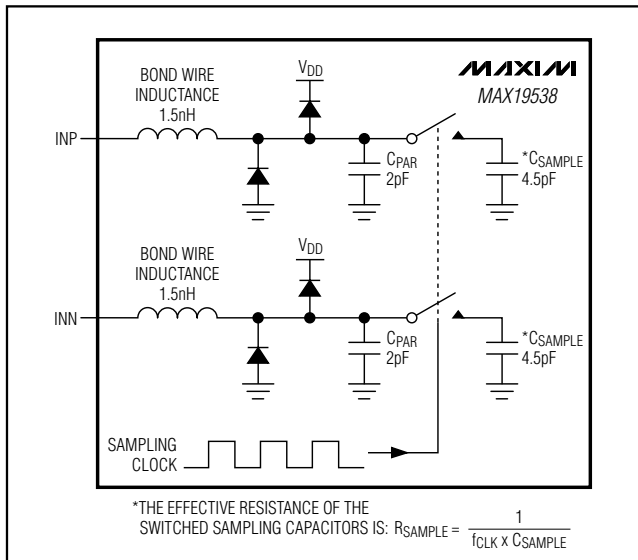
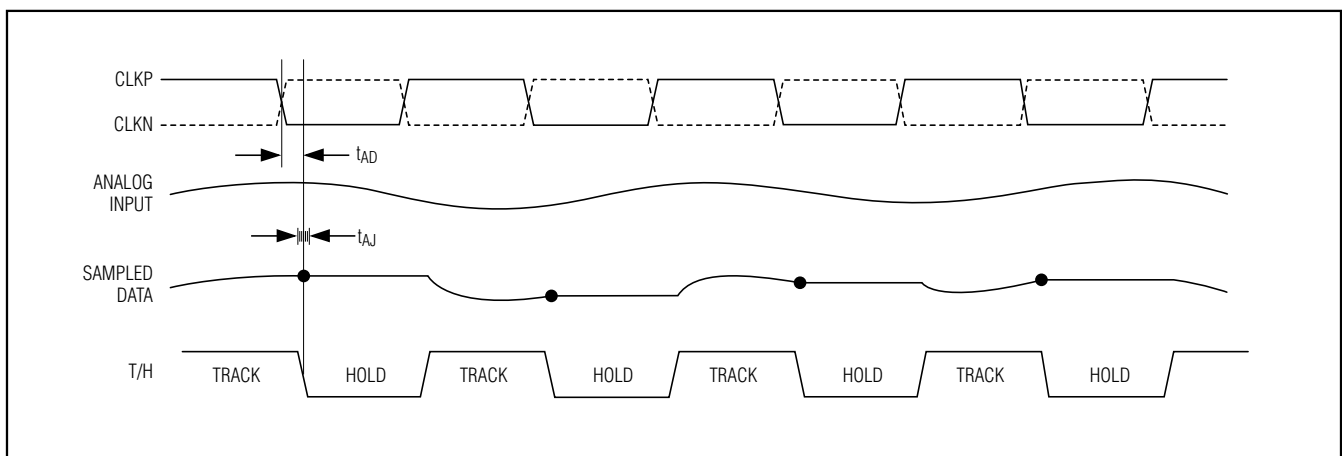

Figure 3. Simplified Input Track-and-Hold Circuit
Figure 4. T/H Aperture Timing
Figure 3 displays a simplified functional diagram of the input track-and-hold (T/H) circuit. This input T/H circuit allows for high analog input frequencies of 175MHz and beyond and supports a $V_{DD} / 2 \pm 0.5V$ common-mode input voltage.
The MAX19538 sampling clock controls the ADC's switched-capacitor T/H architecture (Figure 3), allowing the analog input signal to be stored as charge on the sampling capacitors. These switches are closed (track) when the sampling clock is high and they are open (hold) when the sampling clock is low (Figure 4). The analog input signal source must be capable of provid-
- INP, INN analog inputs are disconnected from the internal input amplifier (Figure 3).